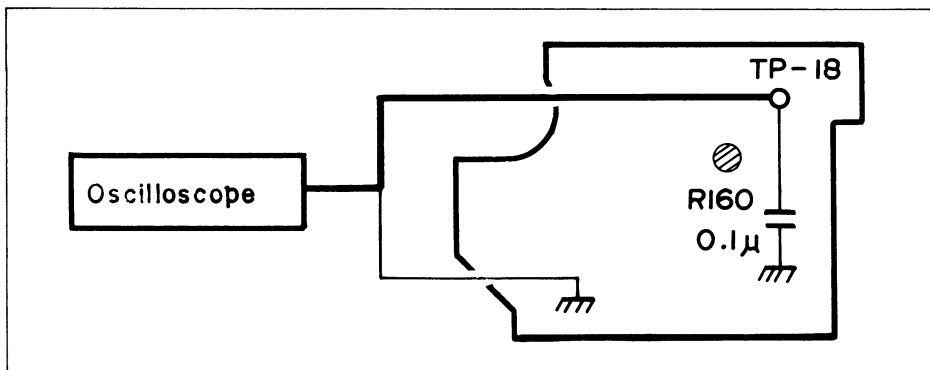

Fig. 5-34. Color lock bias adjustment
- Connect the oscilloscope to TP-18 (Color Lock Bias) on the video printed circuit board and play the alignment tape's color bars. Set the COLOR LOCK potentiometer on the VTR's side panel to the AUTO (preset) position. See Fig. 5-34.